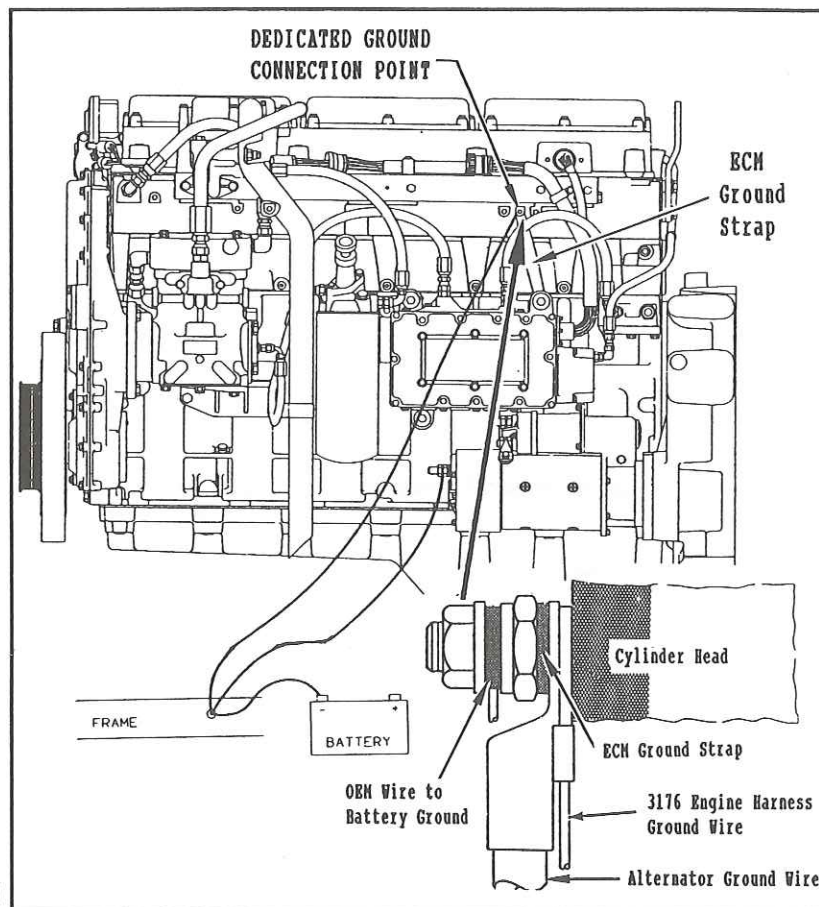

Fig. 31
Proper operation of the Jake Brake engine retarder electrical control system is dependent on securing a good ground connection. The GREEN wire must be attached to the dedicated ground connection point located at the the cylinder head. See Fig. 31. Do not use body bolts or screws on the dash. A poor ground will cause intermittent engine brake operation and damage to the control module.
6. Connect the GREEN wire to a good ground. See Fig. 31.
Connect the GREEN wire to a good ground. See Fig. 31.
Proper operation of the Jake Brake engine retarder electrical control system is dependent on securing a good ground connection. The GREEN wire must be attached to a grounding stud located at the the cylinder head. See Fig. 31. Do not use body bolts or screws on the dash. A poor ground will cause intermittent engine brake operation and damage to the control module.